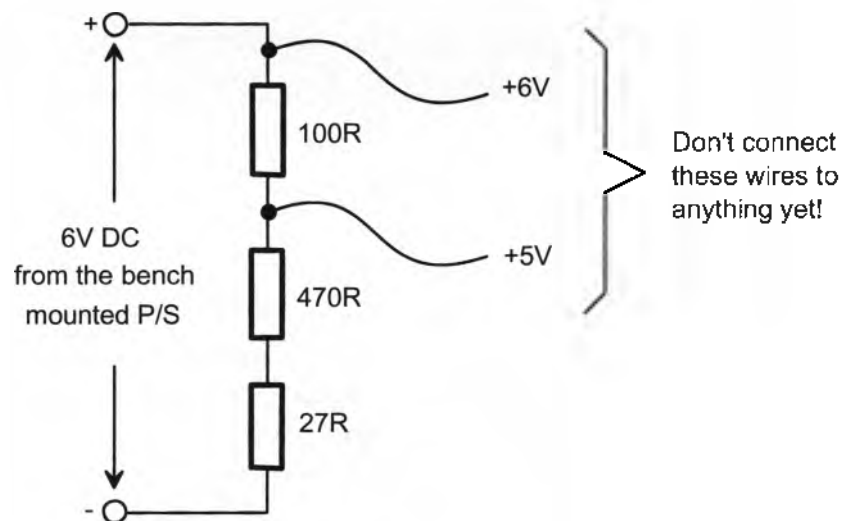

Figure 1
3. Wire the circuit of Figure 1 on the Emona Trainer. When you do, also connect the bench-mounted DC power supply's negative terminal to the trainer's ground terminal.